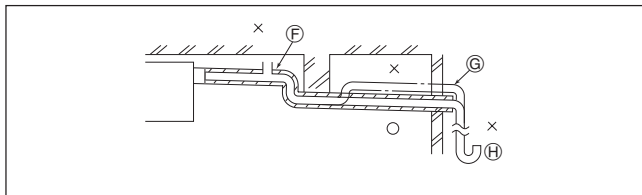
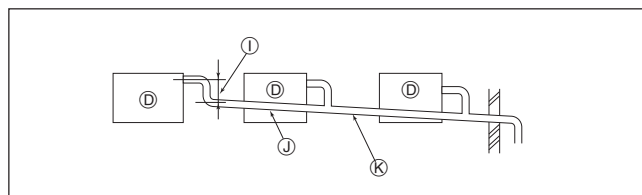
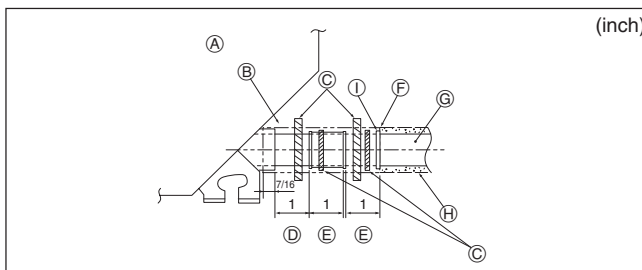

Fig. 5-2
Fig. 5-3
Fig. 5-4
5.2. Wrong piping (Fig. 5-2)
- (F) Air bleeder
- (G) Raised
- (H) Odor trap
5.3. Grouped piping (Fig. 5-3)
- (I) Make it as large as possible
- (J) Downward slope (1/100 or more)
- (K) O.D. ø38 mm, 1-1/2 inch PVC TUBE for grouped piping (9 mm, 3/8 inch or more insulation)
- (D) Indoor unit
5.4. Pipe connection (Fig. 5-4)